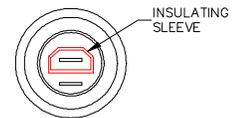

Fig 4 Model 215-2K Insulated Center Pin
6. The push on terminals (right angle & straight) supplied with the modular connector series use an improved double wall barrel design vs. typical single wall barrel. The extra strength in the barrel improves electrical conductivity and wire grip. Some crimp tools do not have enough leverage to securely crimp this terminal which could cause poor connections. The shape of the crimp die also affects the quality of the crimp. A recommended crimp tool manufactured by Thomas & Betts is their model #WT112M. The model 215-2K incorporates insulation around the center pins to interface with the disconnects supplied. <Fig 4>